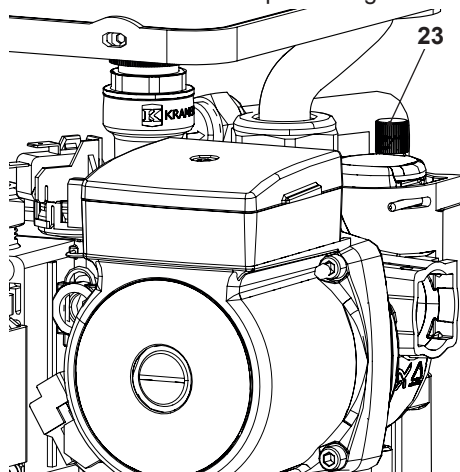

Figure 9.5
- To make draining easier, unscrew the automatic bleed valve cap 23 in Figure 9.5.